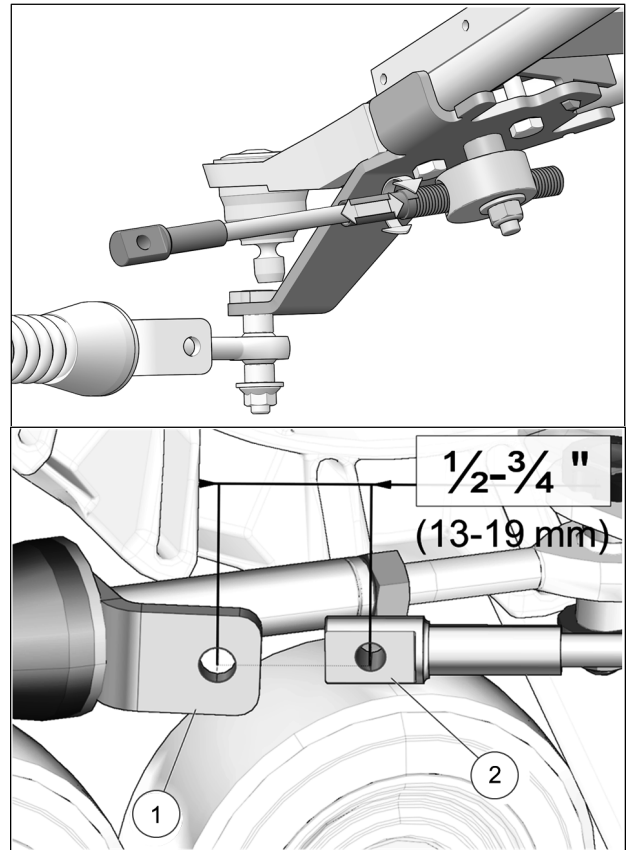

Fig. 25
13. Turn the vehicle's steering wheel to its maximum point of travel on the left. While maintaining pressure on the steering wheel, turn threaded rod to adjust length of cable so that the cable end hole (**1**) is located 13 to 19 mm [$\frac{1}{2}$ to $\frac{3}{4}$ in.] short of the mounting hole on the support plate (**2**). See Fig. 25